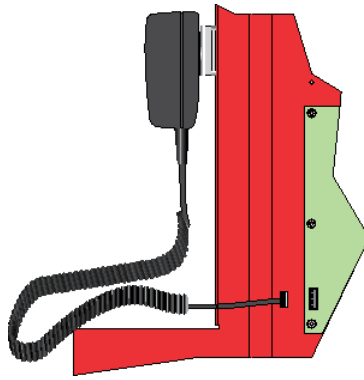

Figure 1.6 Microphone Cord Inserted Through Dead Front Panel Hole
2. Insert microphone cord through hole at the bottom of the dead front panel. See Figure 1.6.